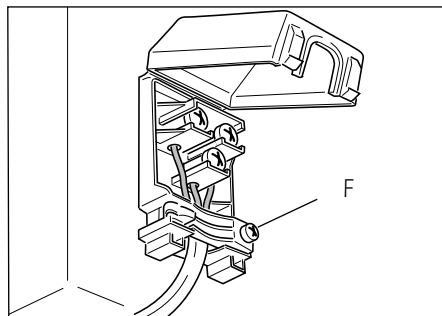

Figure 8
- Open the cable crimp by unscrewing screw "F" (Fig. 8), unscrew the terminal screws and remove the cable.